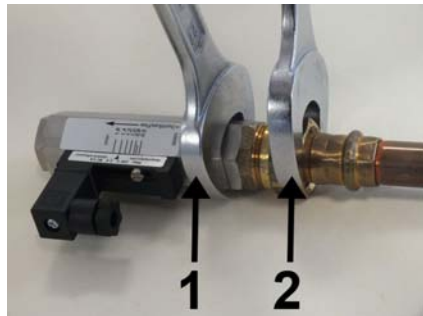

Fig. 11: Screw in the device
2. → Fasten the adapter union of the pipeline with an appropriate spanner (Fig. 11/2). When doing so, lock the process connector in place to prevent slip, using a suitable spanner (Fig. 11/1).